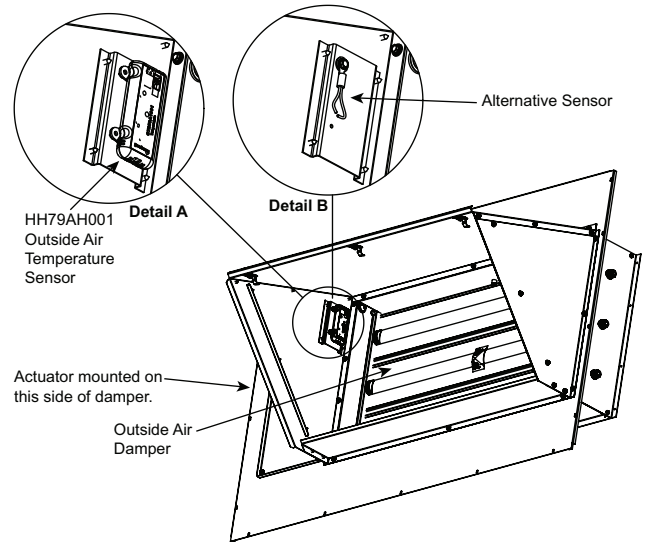

Fig. 1 — EconoMi\$er X Component Locations (CRECOMZR086A00 Shown)
See Fig. 1 for component locations.
8. If the EconoMi\$er X system will be operating with an enthalpy outside air sensor, remove the factory installed HH79AH001 dry bulb sensor from the front face of the economizer (see Fig. 1), and install the accessory enthalpy sensor HH57AC081 in the same location. Connect the (2)
When using the HH57AC081 (Honeywell C7400S) enthalpy sensor (see Fig. 21) for outside air changeover, the existing HH79AH001/HH79ZZ007 dry bulb sensor must be removed. The enthalpy sensor will be mounted in the same location as the dry bulb sensor (see Fig. 1). When the enthalpy sensor's OA temperature, enthalpy and dew point are below the respective setpoints, the outside air can be used for free-cooling. When any of these is above the setpoint, free-cooling will not be available. Figure 22 shows the enthalpy boundaries in the W7220 controller. There are (5) enthalpy boundaries (setpoints ES1 thru ES5), which are defined by dry bulb temperature, enthalpy, and dew point. ES3 is the default setting. (See Fig. 22.) Single Enthalpy and Dual Enthalpy High Limit Curves Table shows the high limit curves for each setting, see Table 6.